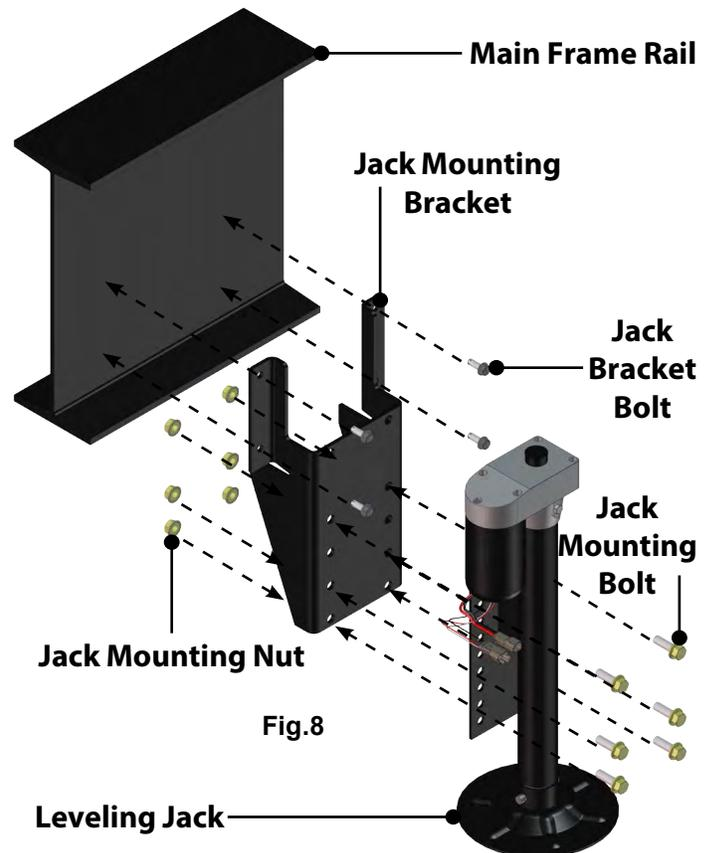
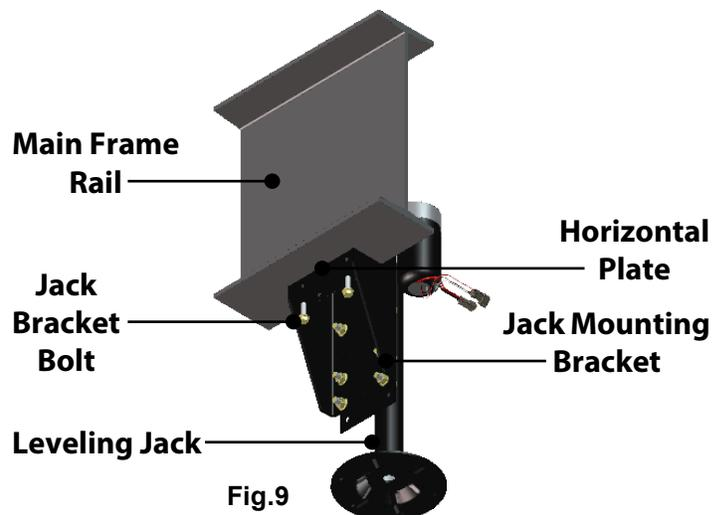

Fig.8
Fig.9
4. Using the included self-tapping bolts, mount the brackets to the frame. Tighten the bolts to no more than 75 ft-lbs of torque. Four bolts will be installed on the outside of the main frame rail (Fig. 8). Two bolts will be installed on the underside of the main frame rail, up through the horizontal plate on the backside of the jack mounting bracket (Fig. 9).
5. Bolt the rear and middle jacks to the mounting brackets using six bolts and nuts per jack. Tighten the bolts to 90 ft-lbs of torque (Fig. 8).